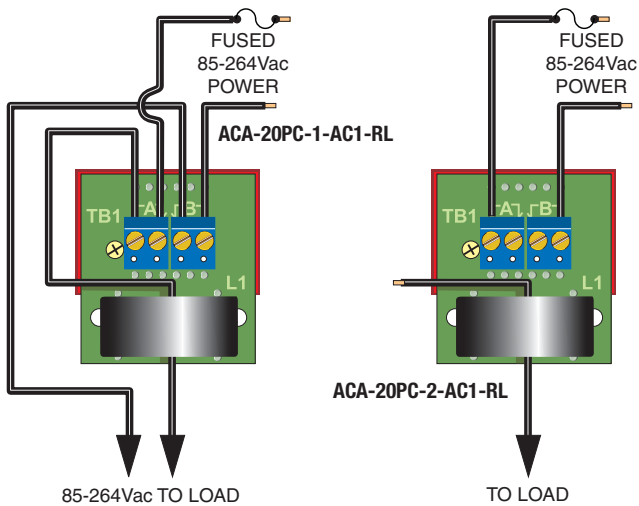

Figure 3. 2A and 20A, 85-264V AC-Powered Models
- ① The ACA-20PC-1-AC1-RL and ACA-20PC-2-AC1-RL have 4-position on-board terminal blocks. All other models have 2-position terminal blocks.
- ② Specified full-scale currents are those passing through the built-in CT's primary(load) circuit, over the frequency of 45-450Hz. The Overcurrent Rating is a continuous rating that applies to the measured ac load current. It does not apply to any circuitry external to the meter. Accuracy is guaranteed to the rated current.
- ③ For the ACA-20PC-2-AC1-RL, if the load is connected to the meter's on-board 4-position terminal block, the 20A full scale range requires 12AWG solid copper wire on all connections. If 14AWG solid copper wire is used, the current should be limited to 15A. See Figure 3.
- ④ All specified maximum power supply currents are steady-state values. AC-powered models can draw higher surges at initial turn-on.
- ⑤ Maximum reverse polarity protection on "DC1" models is -40Vdc.